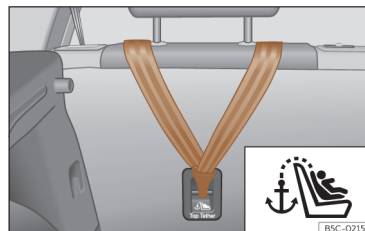
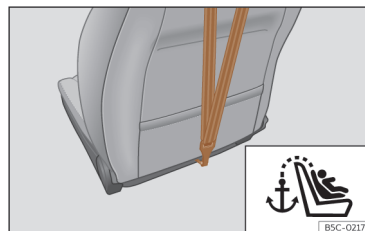

Fig. 46 Rear part of the rear seats: Top Tether strap anchor.
Fig. 47 Rear of front passenger seat backrest: Top Tether strap anchor (not available on all markets).
- Slide the strap and secure it properly with the anchor on the rear seat backrest >>> Fig. 46, >>> Fig. 47.